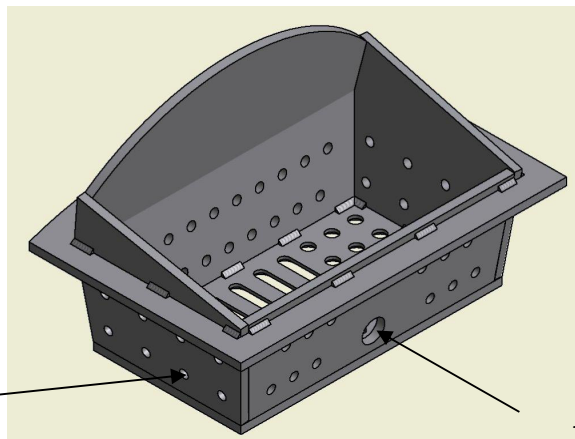

Figure 11
-FIREBOX (box-shaped) is a place where wood mass pellets burn. See Figure 11 It is recommended that the firebox should be cleaned with a vacuum cleaner after each use (when the stove is cool). After every third use, it is recommended that the firebox should be taken out for ensuring that there is no excessive ash accumulated at the bottom of the firebox. Then place the firebox back in its place, making it stable, to ensure the safe operation of the stove.